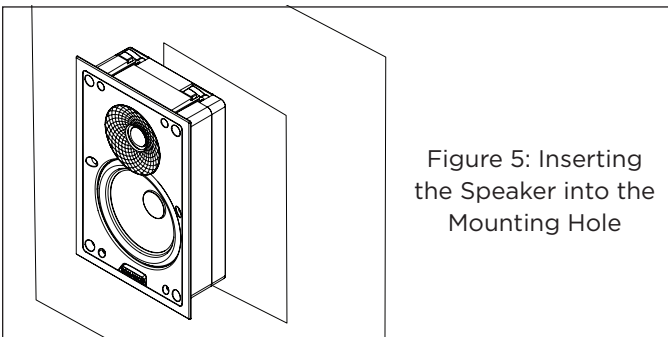

Figure 5: Inserting the Speaker into the Mounting Hole
5. Insert the speaker into the mounting hole and tighten the four screws on the front of the speaker baffle (see Figure 5).